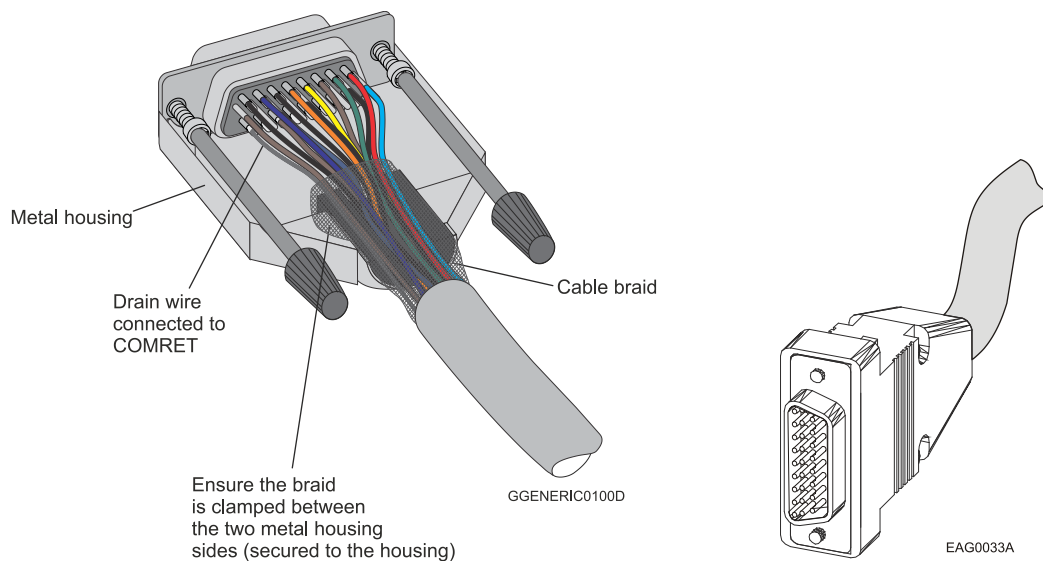

Figure 7: D-Type Cable Assemblies
5. Use only a D-Sub connector with a **metal housing** (Figure 7).
6. Make sure the braid shield is in tight contact with the metal housing of the D-type connector (Figure 7).